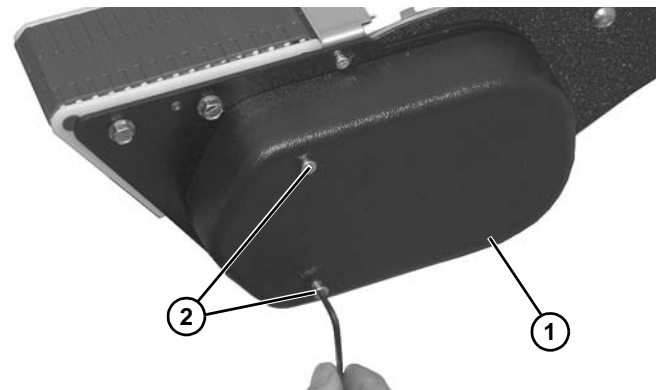

Figure 180
- Install cover (**Figure 180, item 1**) with two socket head screws (**Figure 180, item 2**).